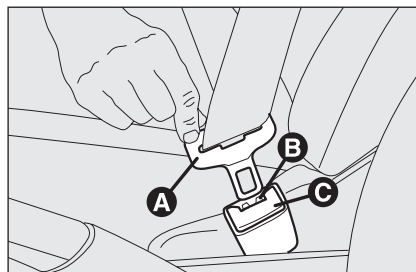

fig. 1
### USING THE SEAT BELTS fig. 1
**Never press button C-fig. 1 when travelling.**